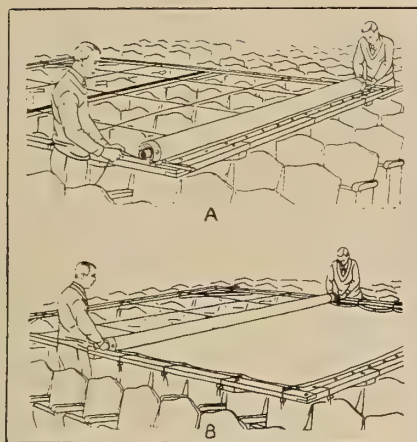

Fig. 6
(1) Whenever possible, and wherever a screen is smaller than 15 by 20 feet, the screen can best be installed by assembling the frame on the stage or on the seats (Fig. 6), with the top toward the place the screen is to be.